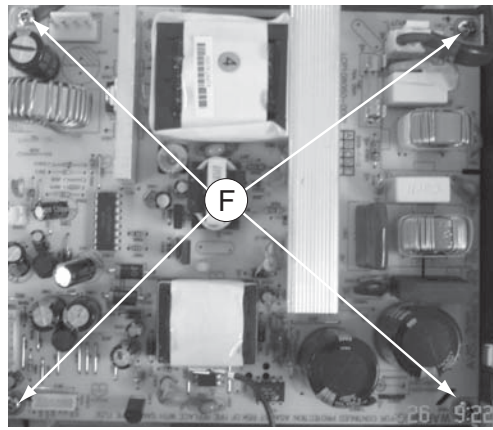

Figure 9
1) Loosen 4 screws "F" on the top of Power Board as shown in figure 9.